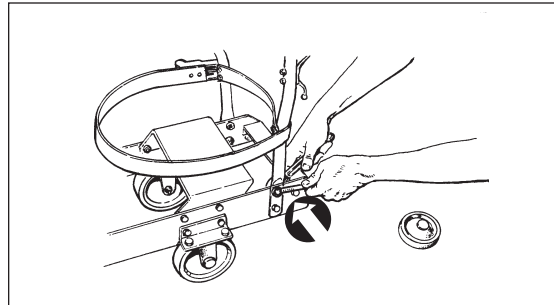

Figure 7
5. Secure the handle assembly to the truck frame by bolting it on with the four 5/16-18 bolts and nyloc nuts supplied and plug in motor power cord. (see Figure 7) Tighten the nuts that hold on the tilt wheels and attach the vacuum support straps as per figure 7.